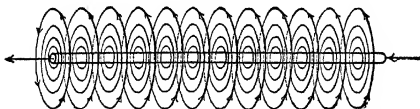

FIG. 208. The magnetic field about a straight wire carrying current.
**109. Field About a Straight Wire.** When an electric current flows along a straight conductor, a circular magnetic field is formed around it as shown in Fig. 208.